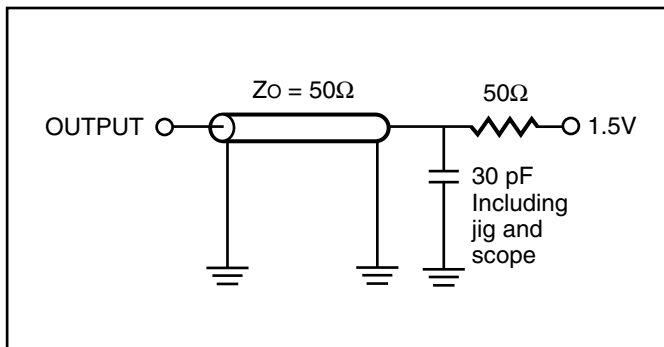

Figure 1.
1. Test conditions assume signal transition times of 5 ns or less, timing reference levels of 0.9V/1.5V, input pulse levels of 0.4 to $V_{DD}-0.2V/0.4V$ to $V_{DD}-0.3V$ and output loading specified in Figure 1.
1. Test conditions assume signal transition times of 5 ns or less, timing reference levels of 0.9V/1.5V, input pulse levels of 0.4 to V_{DD}-0.2V/0.4V to V_{DD}-0.3V and output loading specified in Figure 1.